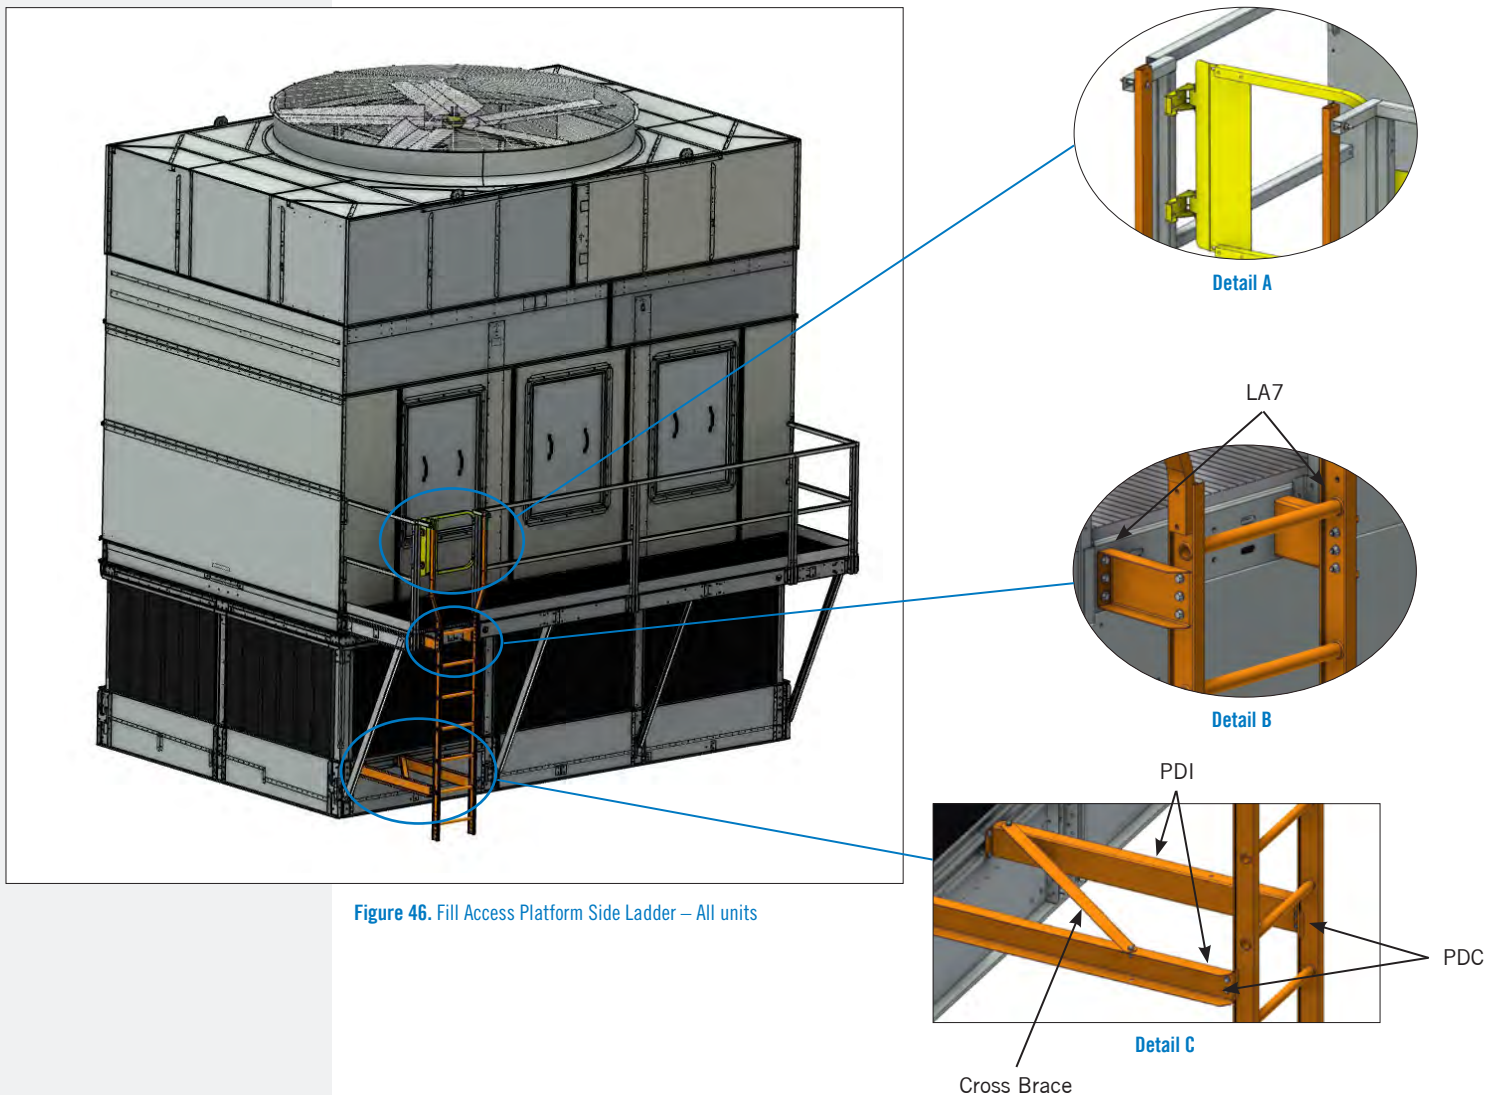

Figure 46. Fill Access Platform Side Ladder – All units
1. Attach the upper ladder supports LA7 to the ladder if not already installed and then attach the ladder assembly to the platform using the 3/8" x 2 1/4" bolts provided. See **Figure 46, Detail B**.
2. Secure the ladder flares to the platform railing posts using the 5/16" x 3 1/2" bolts provided. See **Figure 46, Detail A**.
3. Install the lower ladder support per **Figure 46, Detail C**, as follows: